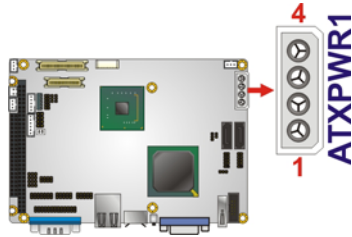

Figure 3-2: ATX Power Connector Location
- CN Location:** See Figure 3-2